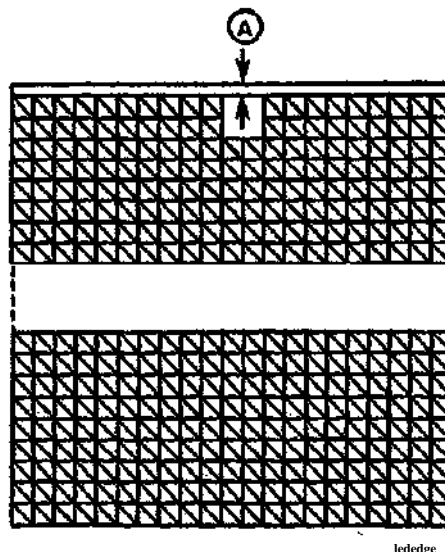

Figure 1. Checking the Lead Edge Registration
4. (Figure 1): Using the last print, check that the distance from the lead edge to the first horizontal line is $16,25 \pm 2$ mm.